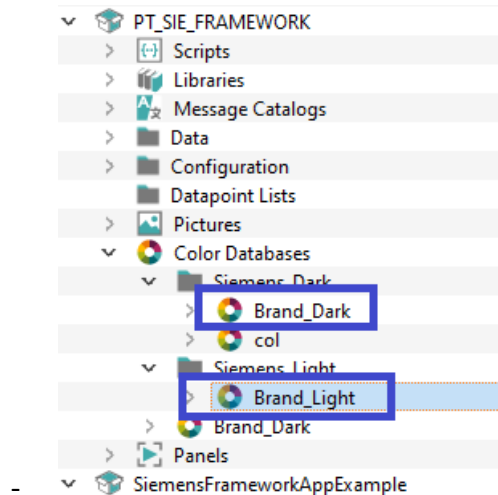

Figure 2-15 Snapshot of the color schemes' paths of the template
- All values in the previous Dashboard panel in Figure 2-15 are static (not changing), as there was no simulation or driver connectivity implemented in this example.
- The name of the project appearing in the header of Figure 2-15 (which is in our case “Application Example”) can be set up by changing the “projectTitle” keyword value in the project.cat file under the path “Message Catalogs/project.cat” in the framework project.